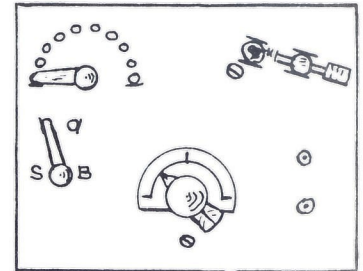

Fig. 3. Panel layout.
**LAYOUT.** Fig. 3 shows layout 1/4" - 1" scale. This is the best plan we've found for short connections, which improves reception of DX. Mount variable condensers and cement on the dial scales & let dry. Mount SEL-BRD scale by center-punching first and cement on. Switch points are 5/16" on center. One for SEL-BRD switch may be 3/8" to keep the opposite ends of coil separated. When you mount switch levers, bend them down good to make a solid connection. A touch of Vaseline, if wiped off, gives smooth running.